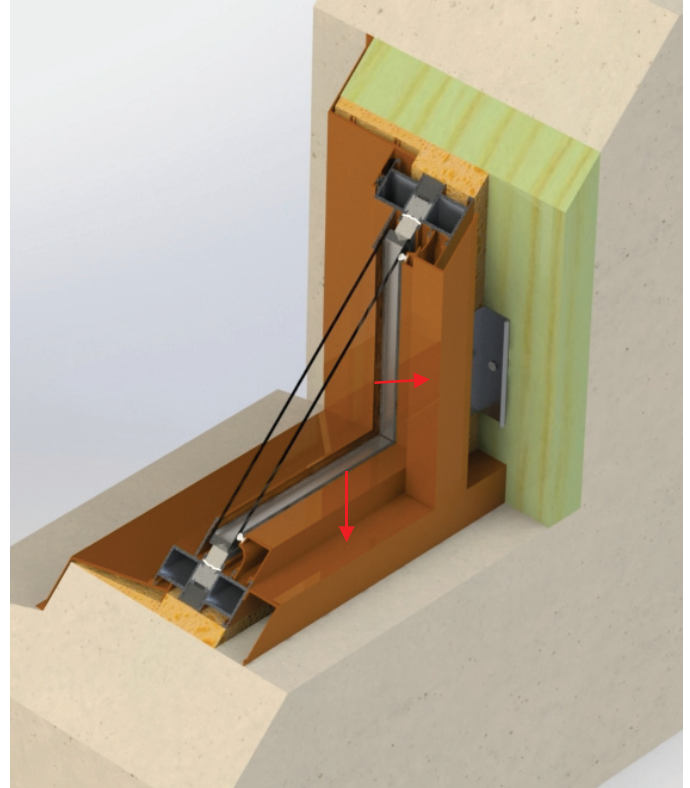

Fig. 16
- D. Install interior snap trim over the base clips. (Fig. 16)